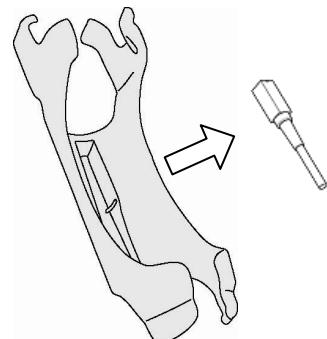

Fig.16 How to release the Magnetic sensor from the Magnetic sensor attachment
- 2) Release the Magnetic sensor from the Magnetic sensor attachment as shown in Fig.16.